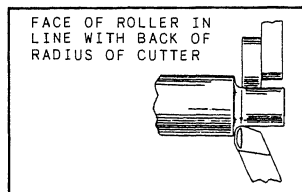

Figure 10-28.—Rollers aligned with the cutter.
4. Align the rollers with the back of the point radius of the cutter, as shown in figure 10-28. Adjust the rollers with the clamping screws, and then clamp them tightly. The rollers are in proper adjustment when **LIGHT PRESSURE WILL STOP THEM FROM TURNING** as the bar stock is revolved.